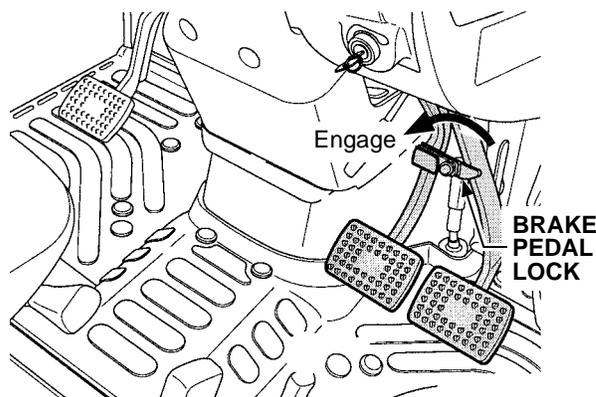

Figure 26
- If transporting the tractor to a job site or traveling on roadways, make certain the two brake pedals are interlocked. See Figure 26.